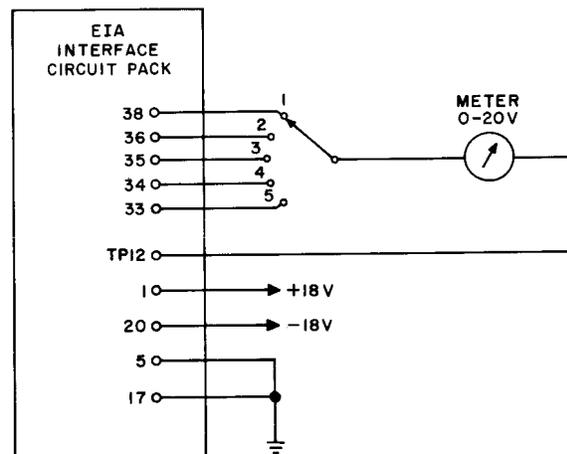

Fig. 47A — EIA Interface Test Circuit
8.08A Input Regulator Diode Test: With the circuit pack connected to the suggested test circuit shown in Fig. 47A, connect ground to terminals 5 and 17, +18.0 (± 0.5) Vdc to terminal 1, and -18 (± 0.5) Vdc to terminal 20. Measure the voltage between the input and test point 12 of each of the five driver inverters by rotating the switch through positions 1 to 5. This voltage should be +9.3 (± 1.0) Vdc.